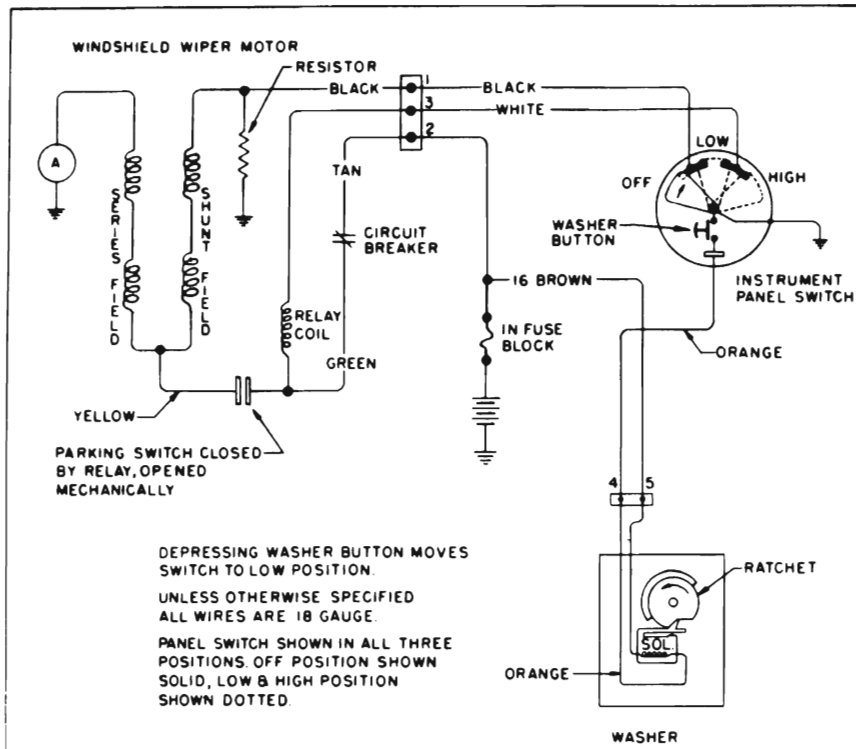

Figure 10-111—Windshield Wiper and Washer Wiring Circuit Diagram
1. Electrical (See Figure 10-111 for overall wiring diagram.)